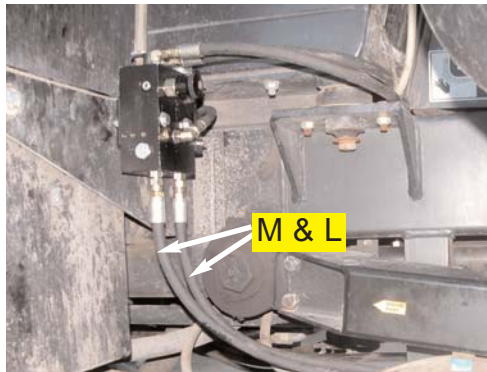

Figure 6b. Automated Steering hoses at Automated Steering Block.
- a. Install the Automated Steering output hoses (**L** and **M**) between the run tees installed in step 5 (Figure 6a.) and the **A** and **B** ports of the Automated Steering Block. (Figure 6b.)